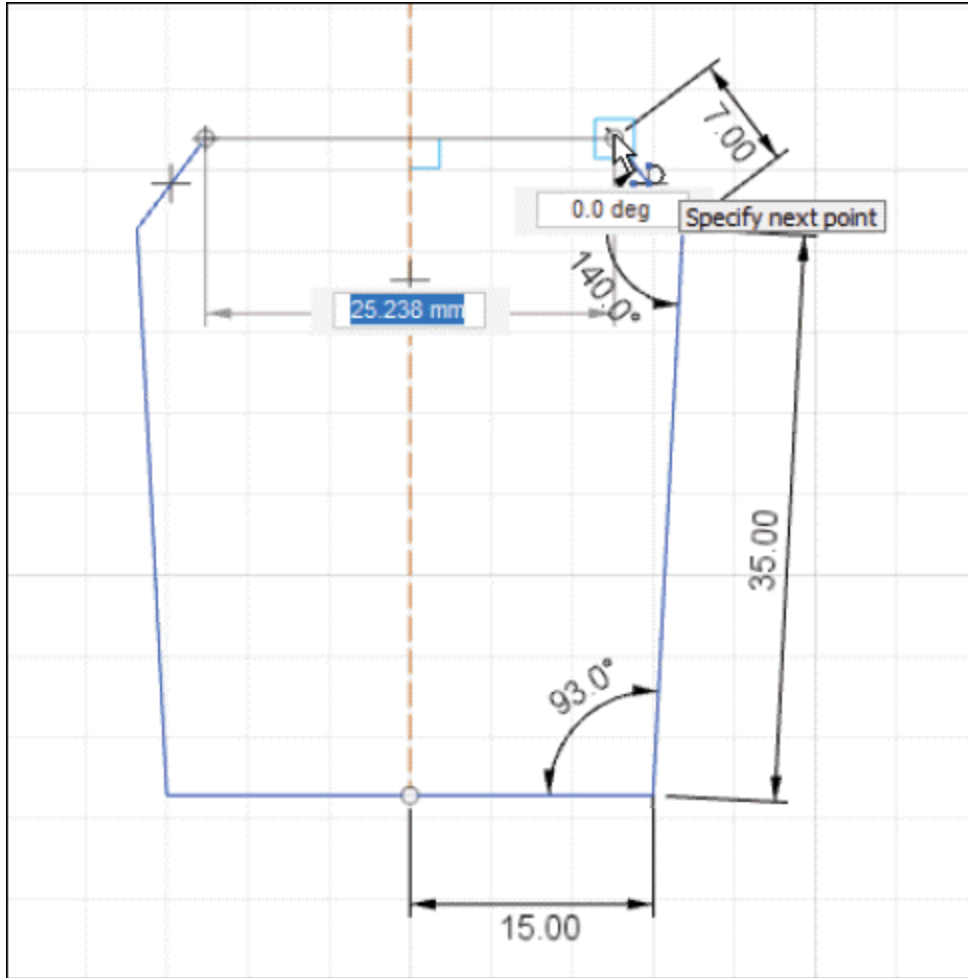

Figure-127. Joining the open ends of sketch
- Now, select **Line** tool and create a line joining the open ends of sketch; refer to Figure-127.